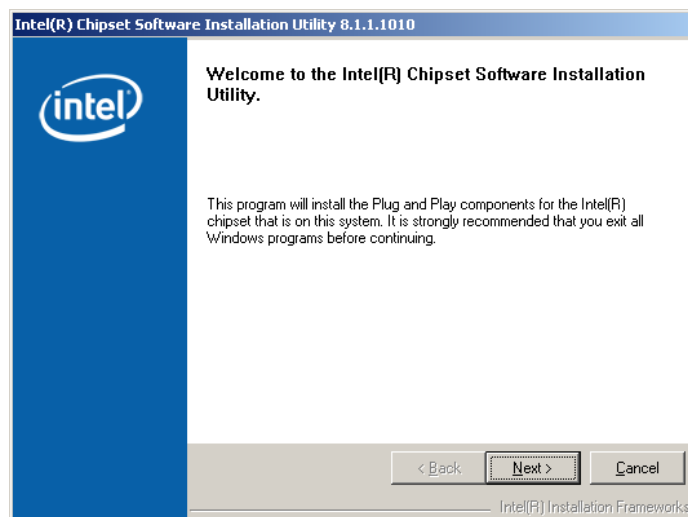

Figure 7-4: Chipset Driver Installation Welcome Screen
Step 4: The welcome screen in **Figure 7-4** appears.